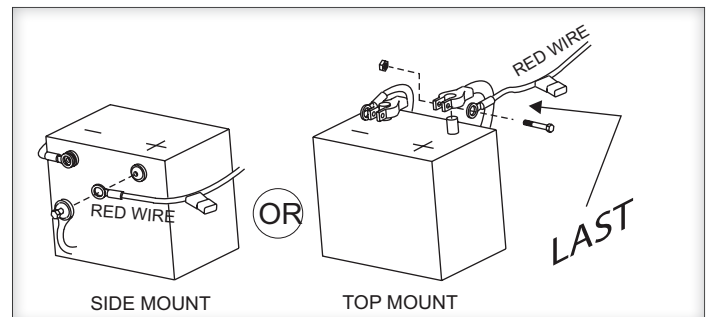

Figure 16-3
8. LAST...attach red wire to the positive terminal on the battery. [Figure 16-3]